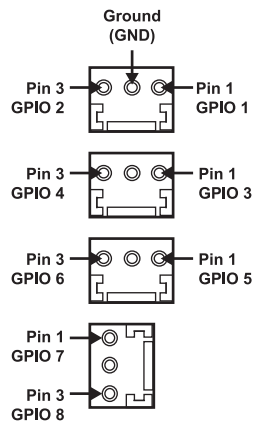

Figure 8 GPI Connections — 8320AR-033
- Refer to **Figure 8** for GPI/Tally configuration on the rear modules.
- Refer to **Figure 8** for GPI configuration on the rear module.